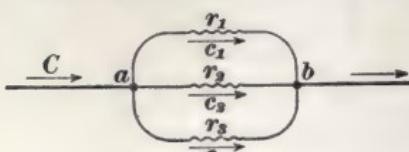

FIG. 52.
**72.** Fig. 52 represents a divided circuit of three branches.
**EXAMPLE.**—In Fig. 52, given  $r_1 = 5$  ohms;  $r_2 = 10$  ohms; and  $r_3 = 20$  ohms; find their joint resistance from  $a$  to  $b$ .
For example, if the currents in the three branches, Fig. 52, are 16, 8, and 4 amperes, respectively, and the joint resistance from  $a$  to  $b$  is  $2\frac{6}{7}$  ohms, then the difference of potential between  $a$  and  $b$   $= (16 + 8 + 4) \times 2\frac{6}{7} = 28 \times \frac{20}{7} = 80$  volts.
For example, in Fig. 52, assume that the separate resistances of the three branches are 5, 10, and 20 ohms, respectively, and that the difference of potential between  $a$  and  $b$  is 80 volts. Then, the current in the first branch is  $\frac{80}{5} = 16$  amperes; in the second,  $\frac{80}{10} = 8$  amperes; and in the third,  $\frac{80}{20} = 4$  amperes.
For example, in Fig. 52, assume the difference of potential between  $a$  and  $b$  to be 80 volts and the currents in the separate branches to be 16, 8, and 4 amperes, respectively; then, the resistance of the first branch is  $\frac{80}{16} = 5$  ohms; of the second,  $\frac{80}{8} = 10$  ohms; and of the third,  $\frac{80}{4} = 20$  ohms.